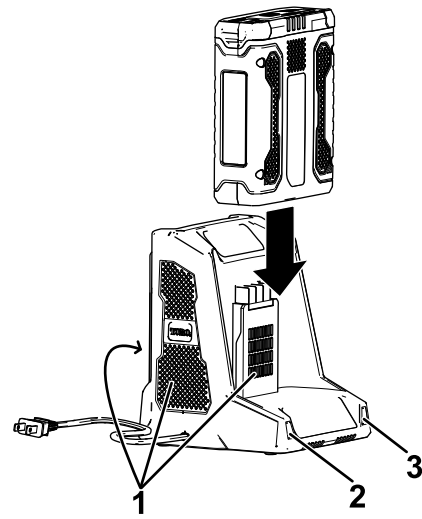

**Figure 9**
2. Line up the cavity in the battery pack (Figure 9) with the tongue on the charger.